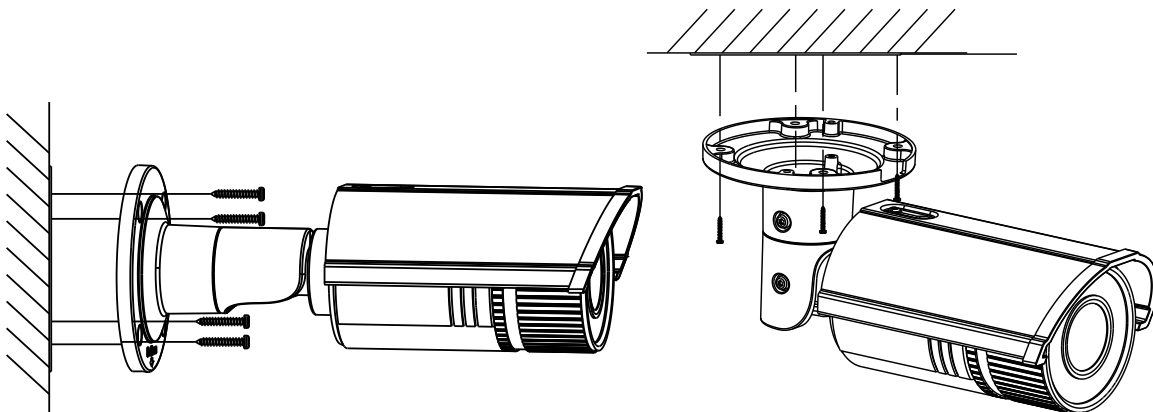

Figure 4-29 Secure the Camera
8. Secure the camera to the wall (or ceiling) with expansion screws. Refer to the Figure 4-29.